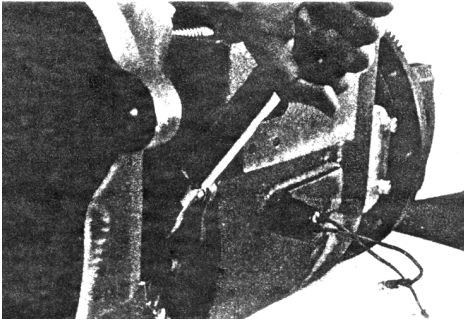
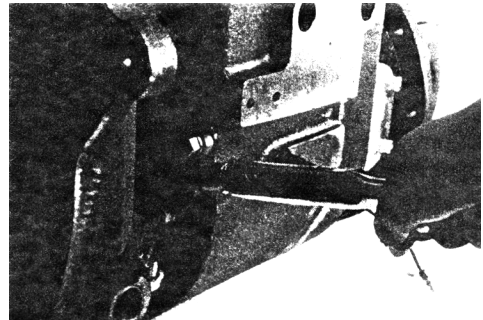

Fig. 3-26
Fig. 3-27
e) After the front end of the shift lever is put into the transmission, tighten the stop bolt to a torque of 7.8-17.6N.m (0.8-1.8kgm) and the lock nut to a torque of 3.7-23.5N.m (1.4-2.4kgm) (See Fig.3-26, Fig.3-27).